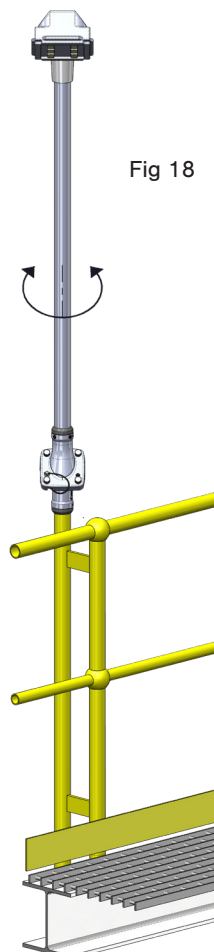

Fig 18
- If adjustment is required, loosen the top grub screws and rotate the pole top. (Fig 18)